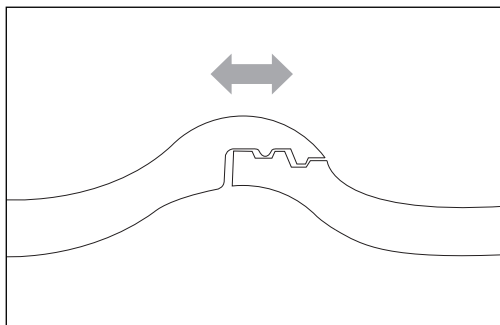

Fig 6 – Interlocking tile 3mm 'shunt'
- 3 Marley Eternit interlocking tiles allow a tolerance ('shunt') of approximately 3mm in side lock for adjustment (Fig 6).